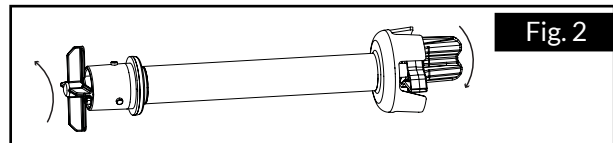

Fig. 2
3. Turn the blade removal kit counterclockwise from both sides at the same time (Fig. 2).